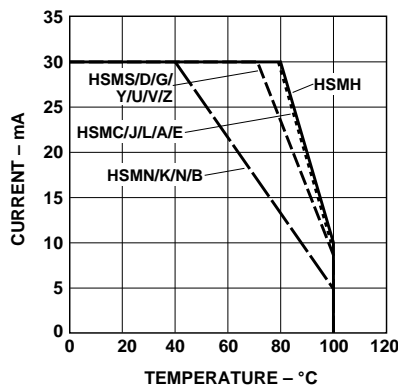

Figure 4. Maximum forward current vs. ambient temperature. Derated based on $T_{jMAX} = 110^{\circ}C$, $R_{\theta JA} = 500^{\circ}W$.
- Derate linearly as shown in Figure 4.